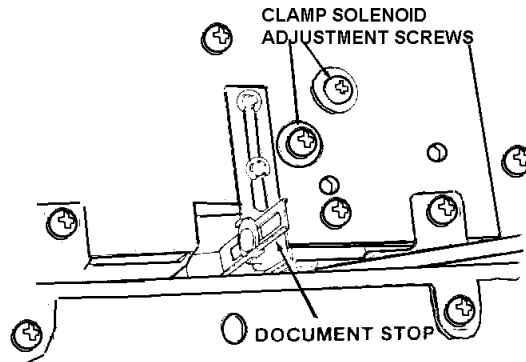

Figure 20. Clamp Solenoid Adjustment
The clamp solenoid is mounted with two screws on the back of the printer (See Figure 20). The mounting holes are slotted to allow up and down adjustment of the solenoid.
- c). Loosen the two screws that secure the clamp solenoid (See Figure 20).